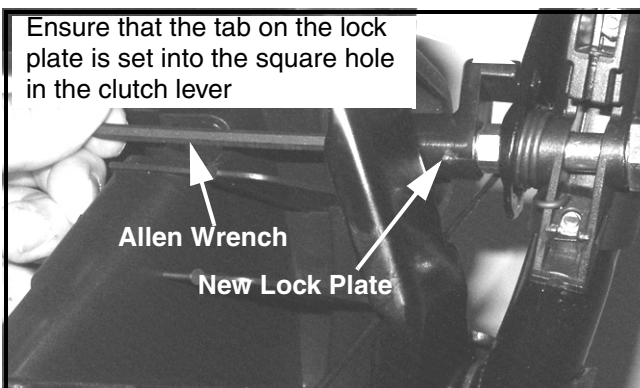

FIGURE 11
23. Using a 3/16" allen wrench and a 1/2" open end wrench, install the new Lock Plate, Item 2, with a new Socket Head Cap Screw, Item 4, to the RH clutch lever's shoulder hex nut. Tighten securely. See Figure 11.